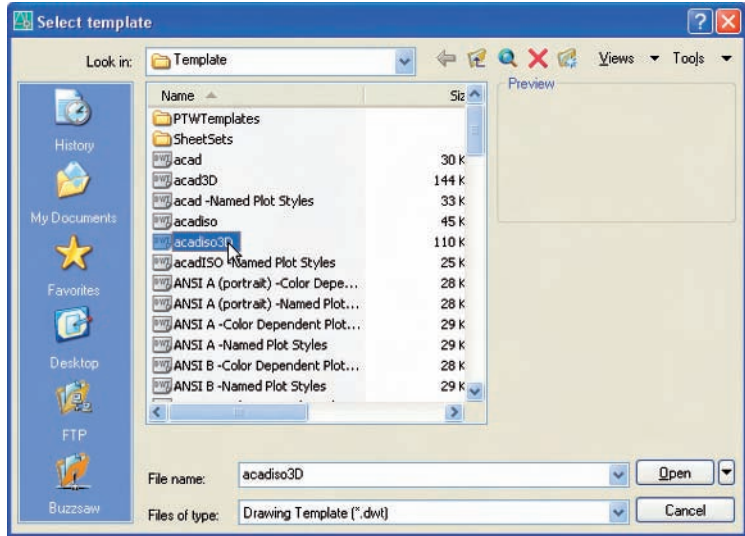

Fig. 16.1 Selecting **acadiso3D** from the **Select template** dialog
1. *Click* **New . . .** in the **File** drop-down menu, followed by a *click* on **acadiso3D** in the file list (Fig. 16.1).